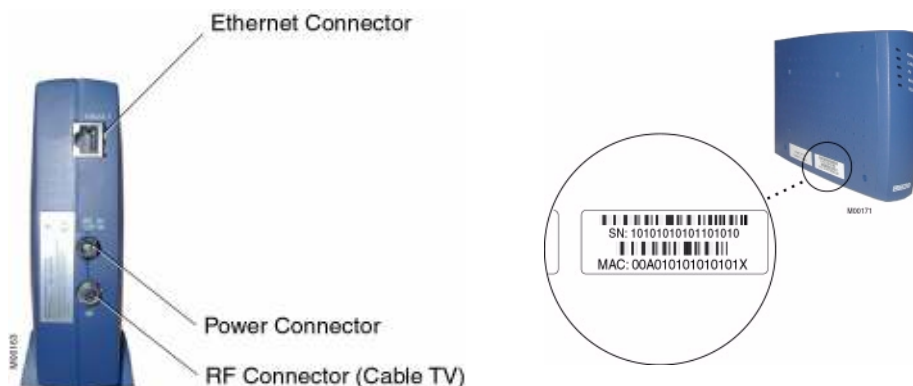

Figure 3 Rear Panel Connectors and MAC Address Label
Place your DOXport III cable modem in an area that will not block any of its ventilation holes. A convenient stand is included to hold the modem in an upright position, as shown in Figure 2. Figure 3 shows the rear panel connectors for Ethernet, Power, and RF (cable).
5. Look at the label on the side of the cable modem. This label (Figure 3) shows the serial number and MAC (Media Access Control) address of your cable modem. Both of these numbers are unique to your modem; write them in the space below in case you need them for future reference. The network uses the MAC address to communicate with your modem.